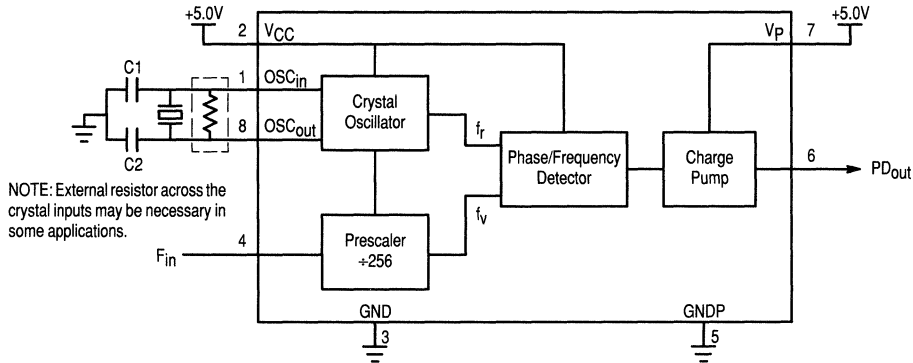

Figure 1. MC12179 Expanded Block Diagram
3. Assumes C_1 and C_2 (Figure 1) limited to $\leq 30pF$ each including stray and parasitic capacitances for a maximum 11MHz crystal.